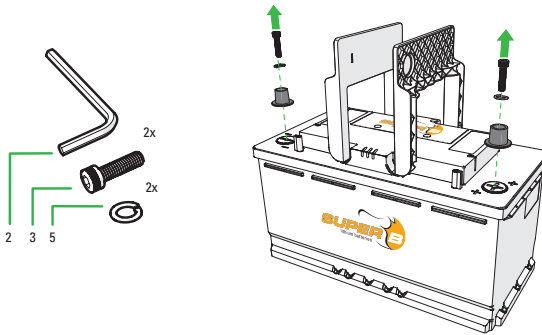

Figure 7. Remove the automotive power terminals.
1. Remove the automotive power terminals. (Figure 7)